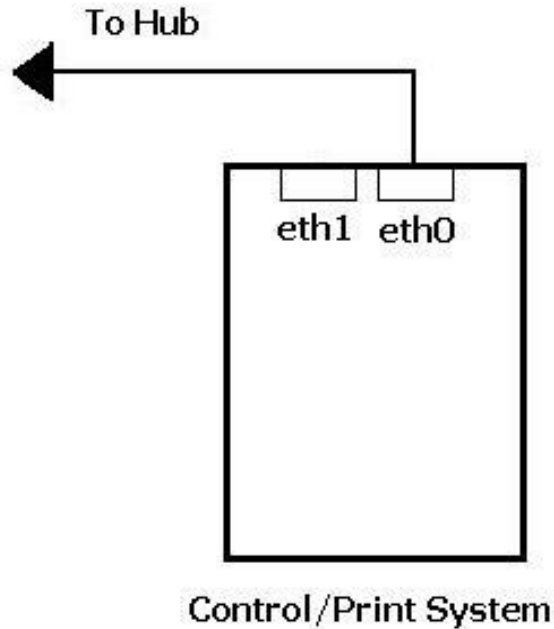

Figure 53: Ethernet connection
5. Verify a connection between Control system motherboard **eth0** network interface (right connector) and network hub as shown in **Figure 53**.